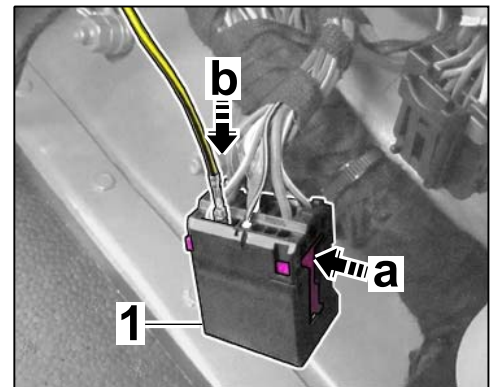

Figure 10
- 2.3.3 Release secondary lock on pin connector socket ⇒ *Figure 10-1-* (⇒ *Figure 10-a-*).
Insert pin contact of line (BK/YE) into chamber 2 ⇒ *Figure 10-b-*.